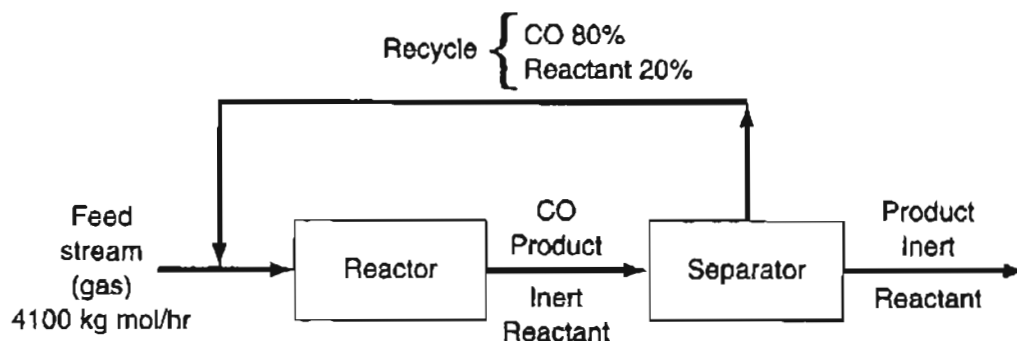

Figure P12.27
- ✓*12.27 Many chemical processes generate emissions of volatile compounds that need to be controlled. In the process shown in Figure P12.27, the exhaust of CO is eliminated by its separation from the reactor effluent and recycling of 100% of the CO generated in the reactor together with some reactant back to the reactor feed.